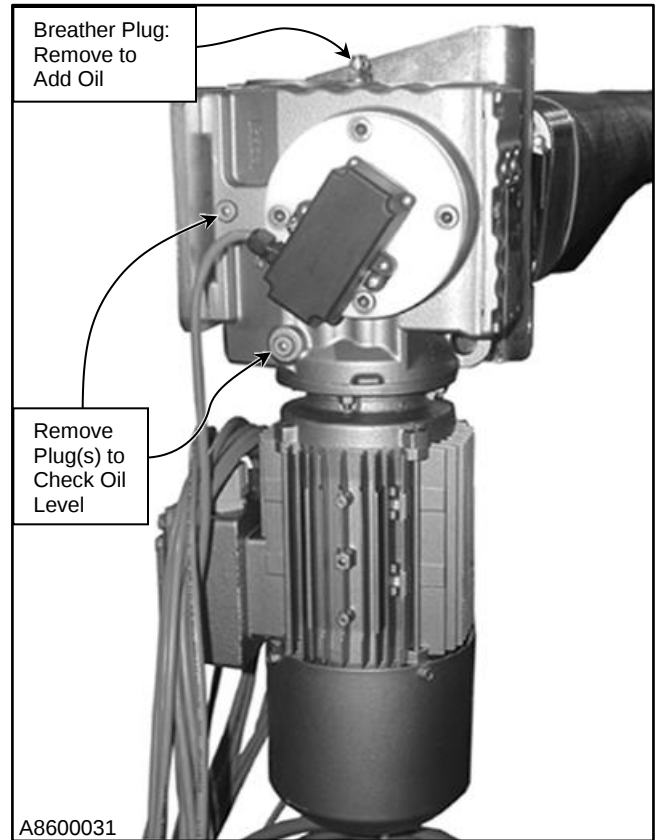

Figure 31
3. **Drive Motor Gearbox Assembly:** The oil level in the gearbox should be checked regularly. The oil level is checked at the plug located on the gearbox. (See Figure 31)